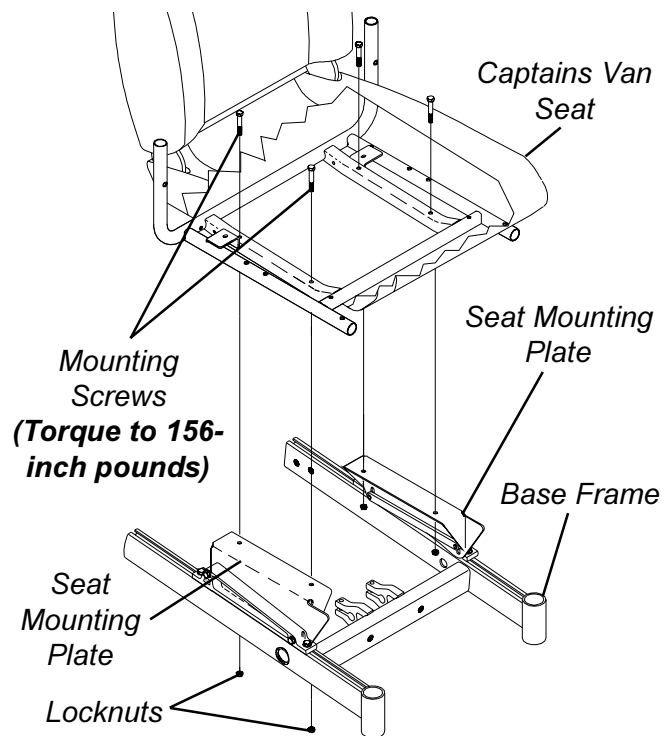

FIGURE 7 - REMOVING/INSTALLING CAPTAINS VAN SEAT ASSEMBLY
## INSTALLING/REMOVING CAPTAINS VAN SEAT ASSEMBLY (FIGURE 7)
1. Position the captains van seat on the seat mounting plates at the position shown in FIGURE 7.
3. Secure the captains van seat to the seat mounting plates with four (4) mounting screws, and locknuts. Torque to 156-inch pounds.